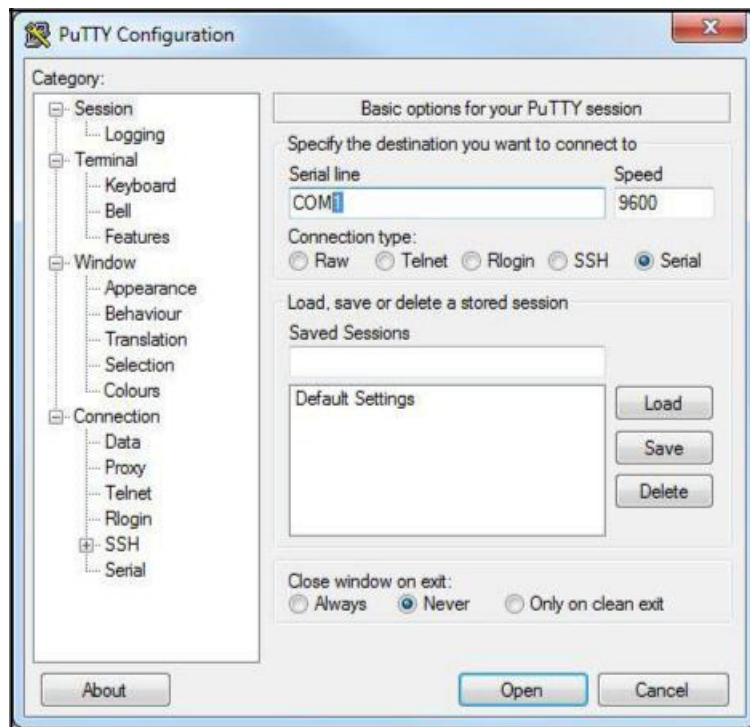

Figure 7. PuTTY Session Options Dialog Box
5. Under **Basic Options**→**Connection Type**, click **Serial**. Default or last-used values will appear in the **Serial line** and **Speed** fields. See Figure 7.